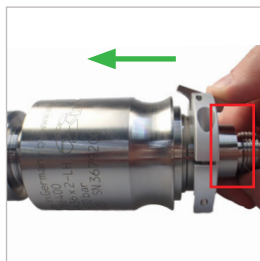

Figure 8
- ▶ Pull the sliding sleeve back (Pos. 1) (*Figure 8*). The connection to the container is released and the connector can be removed by pulling it straight back.
- Hold the connector at the lower part (Pos. 3) and at the the hose with one hand (see red-marked area) and press against the container (green arrow, *Figure 8*).